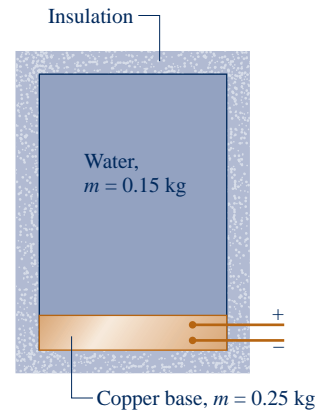

Fig. P3.90
3.90 As shown in Fig. P3.90, a closed, insulated tank contains 0.15 kg of liquid water and has a 0.25-kg copper base. The thin walls of the container have negligible mass. Initially, the tank and its contents are all at 30°C. A heating element embedded in the copper base is energized with an electrical current of 10 amps at 12 volts for 100 seconds. Determine the final temperature, in °C, of the tank and its contents. Data for copper and liquid water are provided in Table A-19.